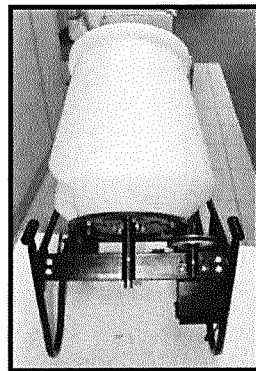

Fig.34: Mixer as completed to this stage.
5. Check that the mixer resembles (Fig.34) at this stage, where all gears are flush to each other, the drive belt tension is correctly set and the motor is securely bolted the frame.